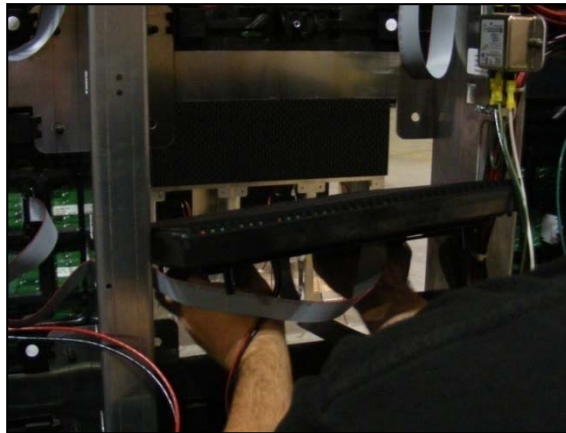

Figure 8: Pulling a Module through the rear of the Display
4. Carefully push the module out of the display face. Refer to **Figure 8**.
8. Pivot the module to pull it through the back of the display. Refer to **Figure 8**.
9. Pivot the module to pull it through the back of the display. Refer to **Figure 8**.